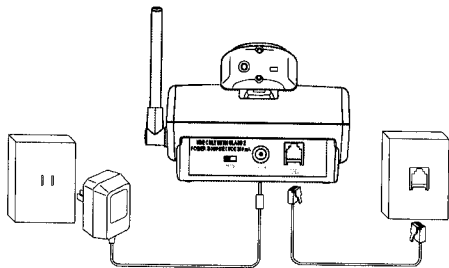

Figure 7
2. Connect the small adaptor plug into the DC 9V jack on the rear of the base unit as shown in figure 7.